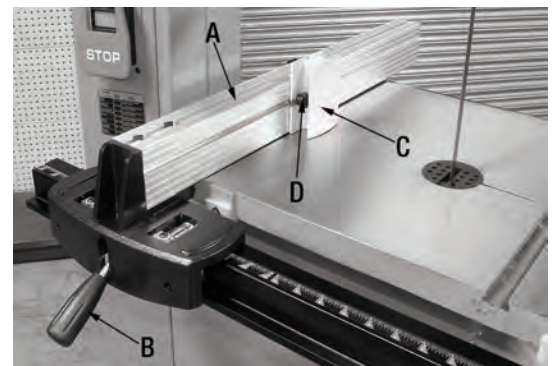

FIGURE 8
7. Position the rip fence (A) Fig.8 onto the front and rear rails. Lower the front handle (B) to lock rip fence into position.
8. Install the resaw guide (C) Fig.8 to the fence body using the 2 small lock knobs (D). Slide and position the resaw guide so that it is centered with the front edge of the blade and tighten lock knobs.
Resawing is a method of ripping a piece of lumber into thinner pieces as well as making book matched or slip matched panels. The curved resaw guide (C) Fig.8 is the best option for guiding wood through the bandsaw. The narrow line of contact makes it easy to compensate for a blade that "leads" or wanders off the cutting line when the stock is fed straight into it. You can get satisfactory results with this resaw guide "single point" method, but it demands very careful hand control.